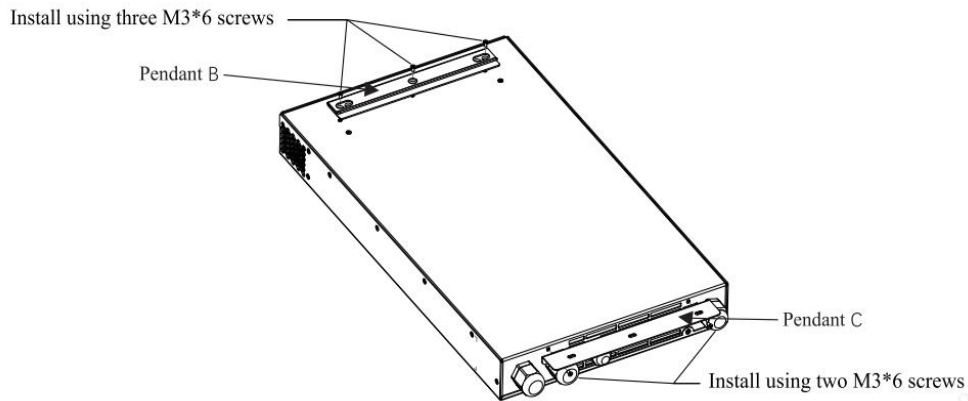

Fig. 2.2 Pendant B and Pendant C are fixed on the charger
2) Install pendant B and pendant C on the corresponding positions of the charging machine with M3 countersunk screws provided in the packing box, and tighten the screws, as shown in Figure 2.2: